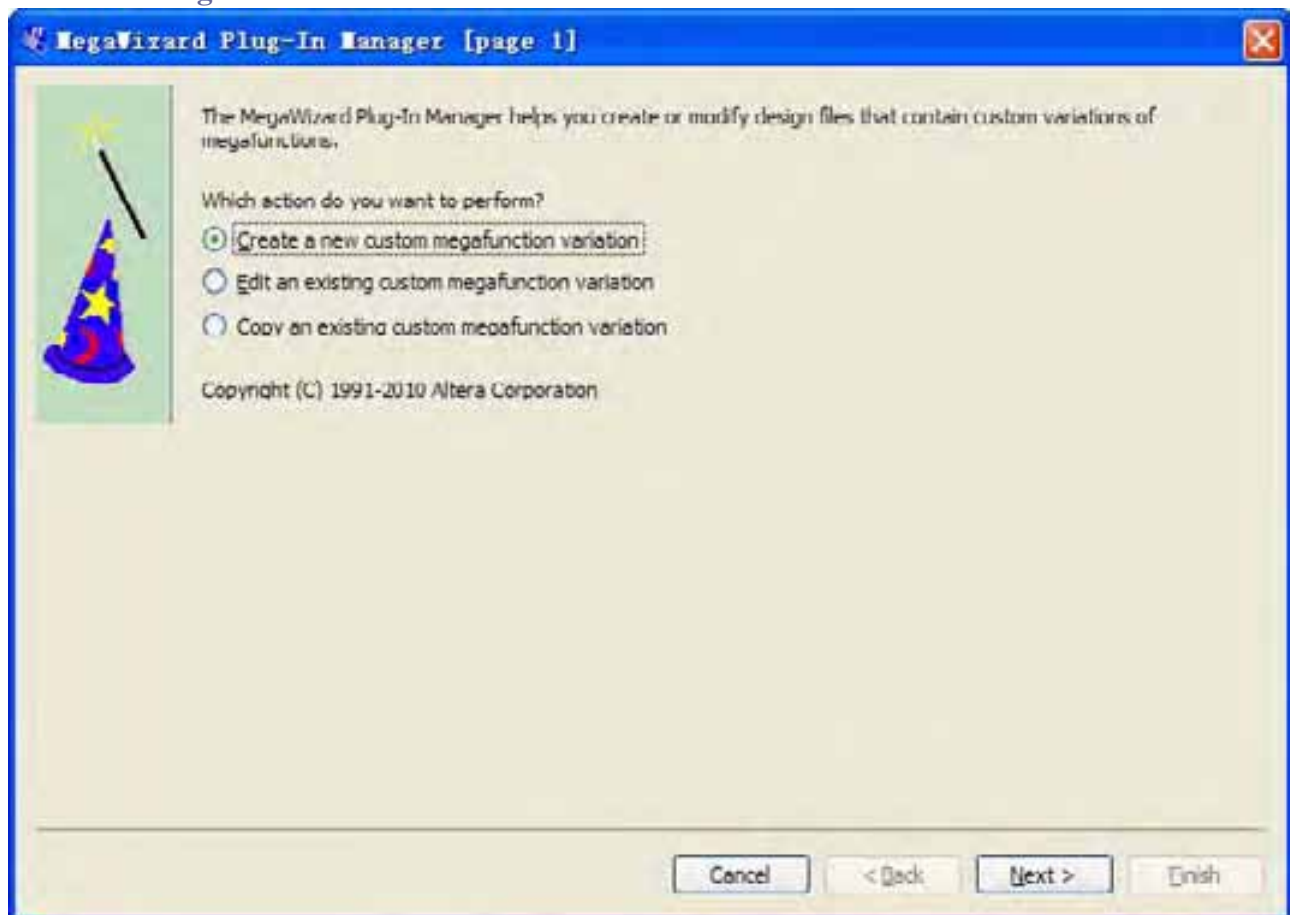

Figure 6-19 Mega Wizard Plug-In Manager
2. Click the Megawizard Plug-in Manager button. The MegaWizard® Plug-In Manager appears, as shown in **Figure 6-19**.